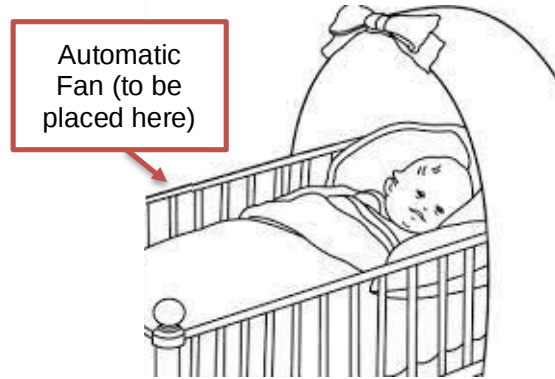

Fig. 4.1
- 4 A designer wants to create an automated fan that detects if the area around the baby's bed becomes too warm. When this happens, the fan (powered by a DC motor) will automatically turn on to cool the baby. The fan will be powered by rechargeable batteries and will include a power on/off switch. The user will also be able to adjust the sensitivity of the sensing circuit. The fan will be placed in the location shown in Fig. 4.1.
(b) The sensing circuit in Fig 4.1 is an example of an electronic control system.